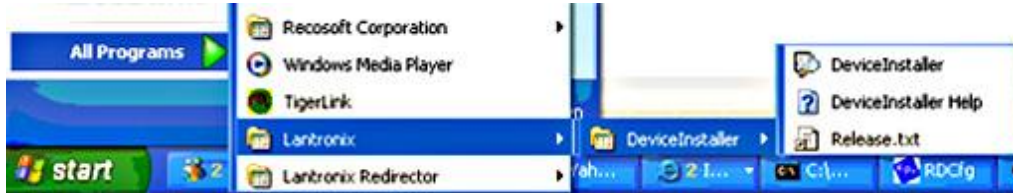

Fig. 1
1. Click the START button on the task bar and select All Programs > Lantronix > DeviceInstaller > DeviceInstaller (Fig. 1).